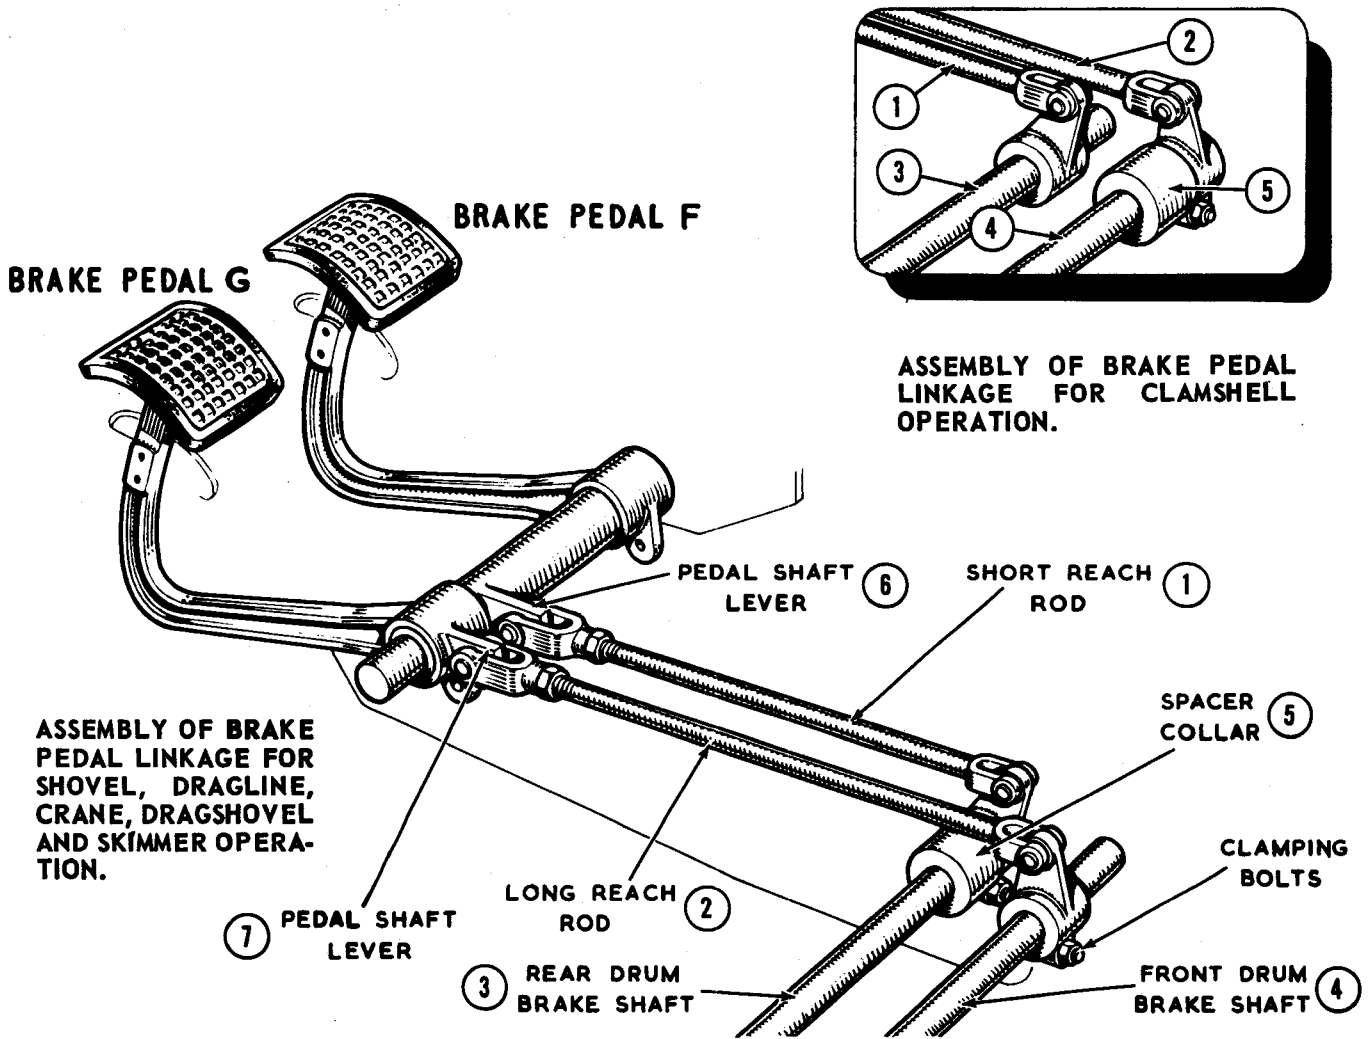

Fig. 4. Interchanging Functions of Brake Pedals.
To make this change, refer to Fig. 4, and proceed as follows:-
Woodruff keys and the short levers on the shafts ensuring that the lever on shaft (3) is located against the boss welded to web of the casting. Remove the reach rods (1) and (2) from the pedal levers (6) and (7). Refit the short reach rod to lever (7) and the lever on shaft (3). Refit the long reach rod (2) between lever (6) and the lever on shaft (4) as shown in the insert of Fig. 4. It will be helpful to get an assistant to move the appropriate foot pedal when removing or replacing the clevis pins. Check that the split pins are fitted and that the clamping bolts are tight.